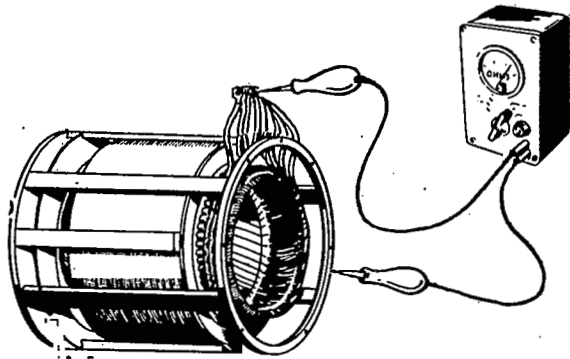

FIGURE 12. TESTING STATOR WINDINGS
**Testing for Grounds:** Disconnect stator leads from bus bar assembly; observe wire identification. Connect all stator output leads (T1-T12) together. Use an ohmmeter set on the R x 10K scale and measure the insulation resistance between these windings and the stator frame. A reading of less than infinity indicates a ground. See Figure 12.